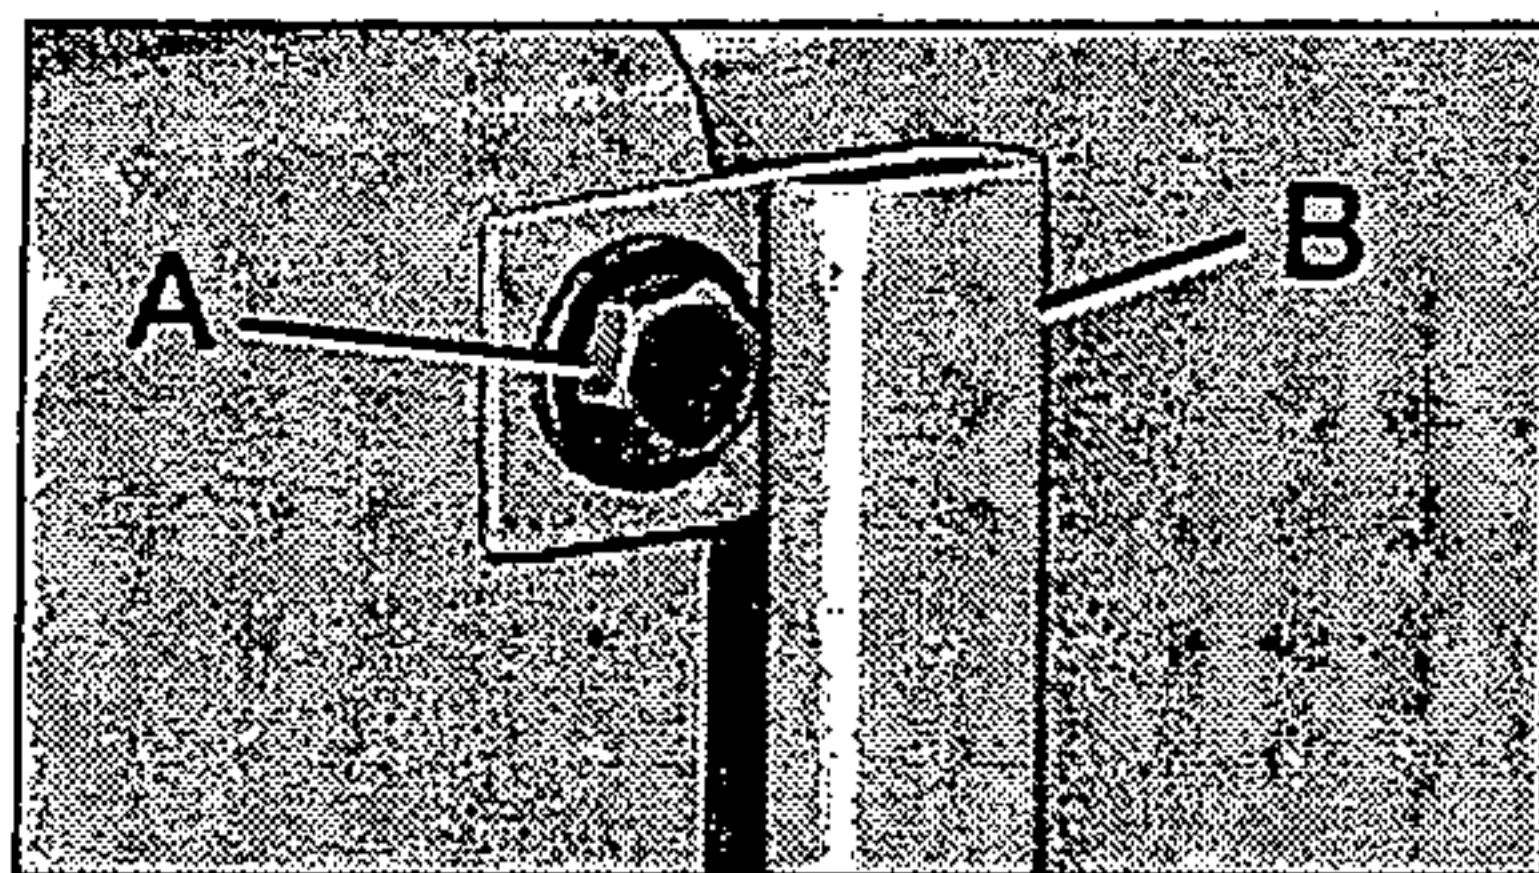

Figure 12
23. Install hose channel (B, fig. 12) with hex cap screw (A) on right side of pulley guard.